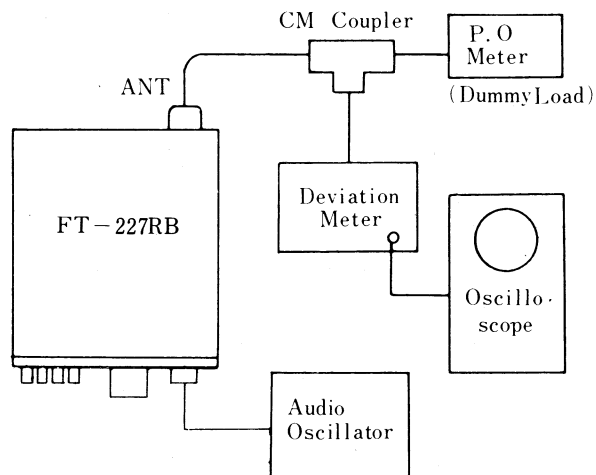

Figure 8
(3) AFP (Automatic Final Protection)
(4) Deviation
- a) Connect YP-150 to the antenna connector, the output of an audio oscillator between pin 6 (hot) and 5 (ground) of microphone receptacle and a deviation meter as illustrated in Fig. 8. Set the audio output level to 25 mV at 1 kHz.
(5) Tone Burst